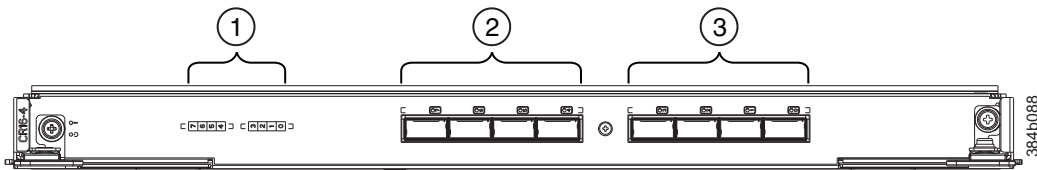

Figure 58. CR16-4 core blade
- Figure 58 shows a CR16-4 core blade